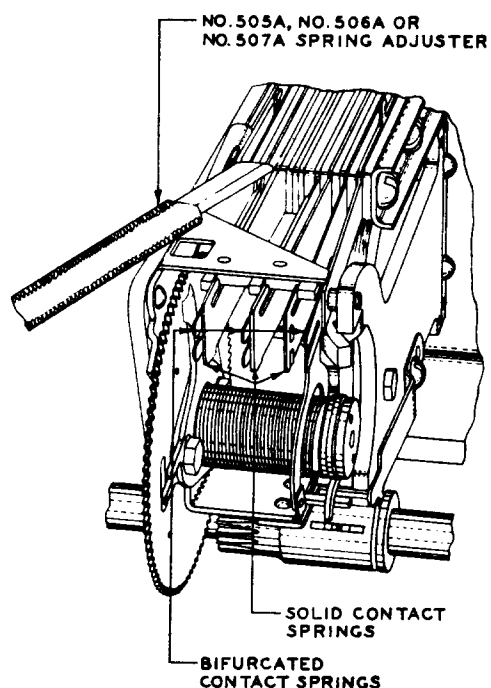

Fig. 23 - Method of Adjusting Spring Tension
- (1) Use the No. 505A, No. 506A, or No. 507A spring adjuster to adjust the springs. Place the adjuster on the spring near the middle and slide it back along the spring to the point where the spring leaves the clamping plate and insulators, as shown in Fig. 23. Adjust the spring to the right or left, as required. Check that requirements 2.17, 2.20, 2.21, 2.22, 2.23, 2.24, and 2.26(a) are met.